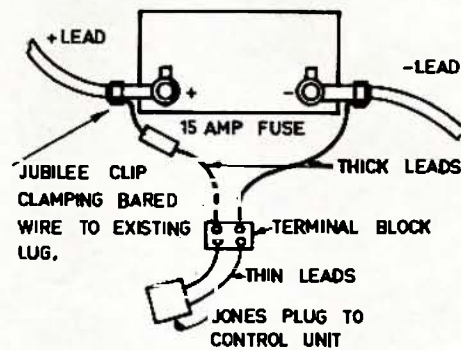

FIG 2 BATTERY CONNECTIONS
The cables are terminated at the control unit by four Pin Jones plugs. Since the cables must be 50 amp rating it is difficult to connect them into the Jones plugs so that a two pole connection block is used to reduce the 50 amp wires down to ones of smaller cross-section so as to fit into the plug. See Fig. 2.
D.C. These are approximately 10-12 feet long. The main D.C. cables from the battery runs to the boot of the car via the control unit. One is attached to the negative terminal of the battery by means of a "Jubilee" clip around the lug and the other to a 15 Amp "Slydlok" fuse attached to the positive lug by similar means. See Fig. 2.